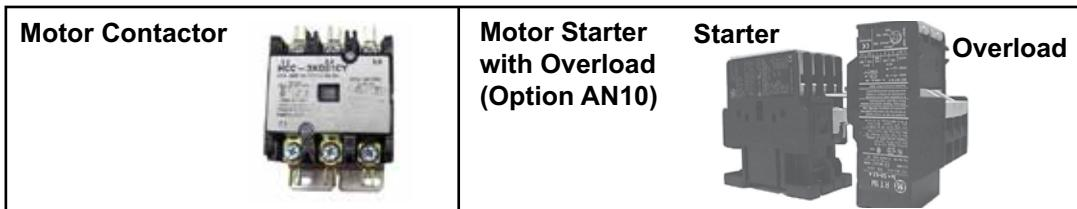

Figure 11. Motor Contactor and Starter (Refer to Table 14, Table 15, and Table 16)
- The motor contactor (see Figure 11) used on single-speed blower motors is PN 216386 (replaces PN 119625) and the starter is option AN10 (see Figure 11).
- Single-speed blower motors are listed by type, HP, and voltage. Highlighted motors in Table 14, Table 15, and Table 16 do not have internal overload protection and MUST be used with the starter and overloads listed unless the unit is equipped with a variable frequency drive (item 9, Table 3).